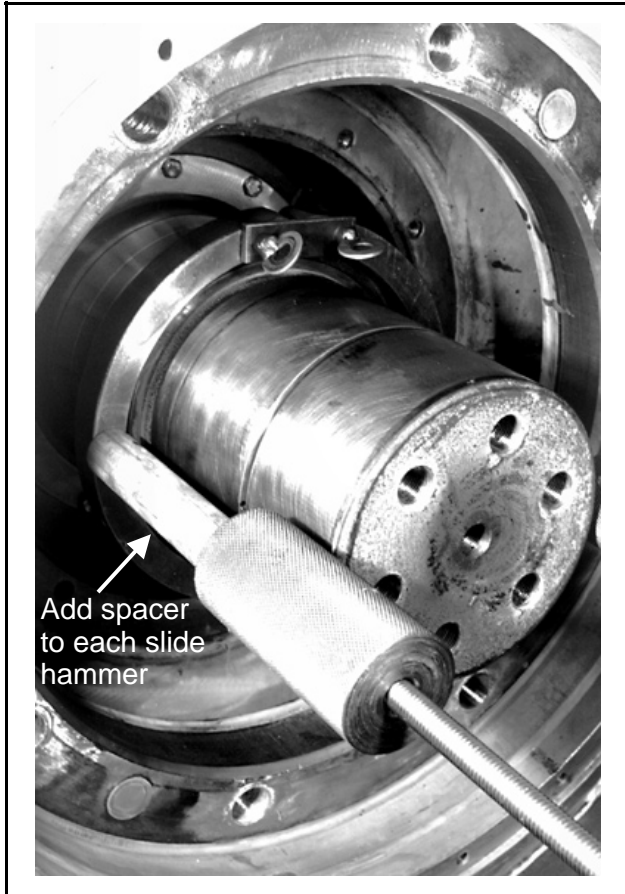

FIGURE 15 (MSSM0275AE)
2. Add spacers to each *shaft sleeve tool* slide hammer as shown in FIGURE 15. Use slide hammers to gently tap *shaft sleeve* into place.